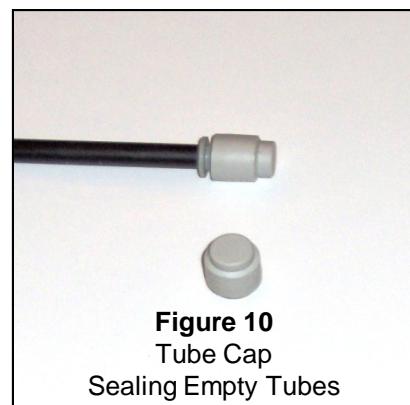

Figure 10
9.3 Install Tube Caps on all exposed tubes. The Tube Cap is a push-fit device so ensure it is fully seated and firmly attached to the tube end. *Tube Caps shall remain on all incoming and outgoing tubes inside the Class I boundary TDU until the tubes are filled with fiber bundle. See Fig. 10.*